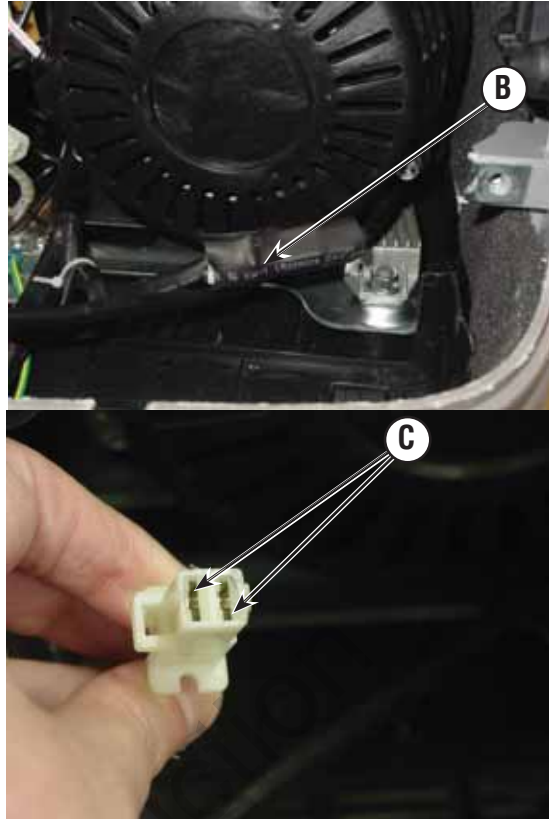

Figure 67
3. Locate battery winding connector (B, Figure 67) and measure resistance across the terminals (C).